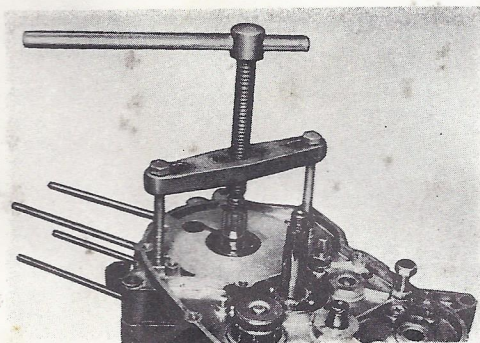

Fig. 3-14-2
- b. Install the crankcase splitting tool on the right case, and alternately tap the transmission main shaft and the side of the right case with a plastic tip hammer, so that the left and right halves will split. (Figs. 3-14-2 and 3)